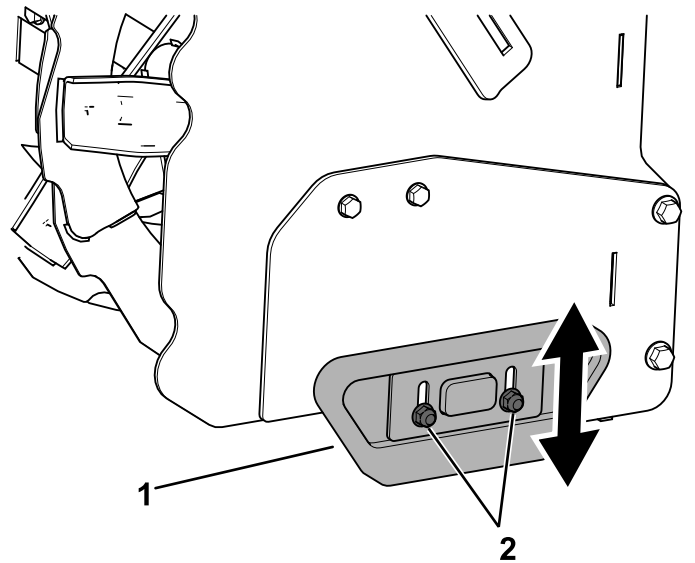

Figure 28
3. Loosen the nuts that secure both skids to the auger sides until the skids slide up and down easily (Figure 28).